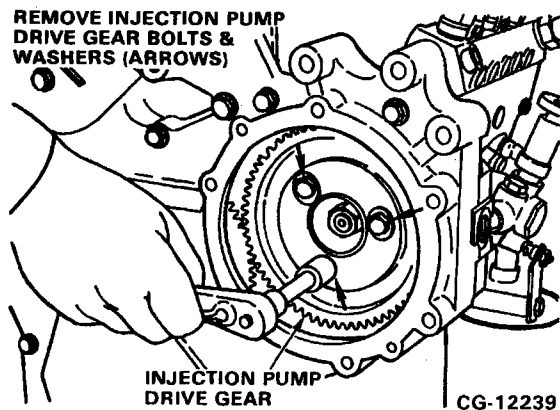

Figure 11.112. Remove Injection Pump Drive Gear Bolts
11. Remove the injection pump drive gear bolts and hardened washers. Refer to Figure 11.112.